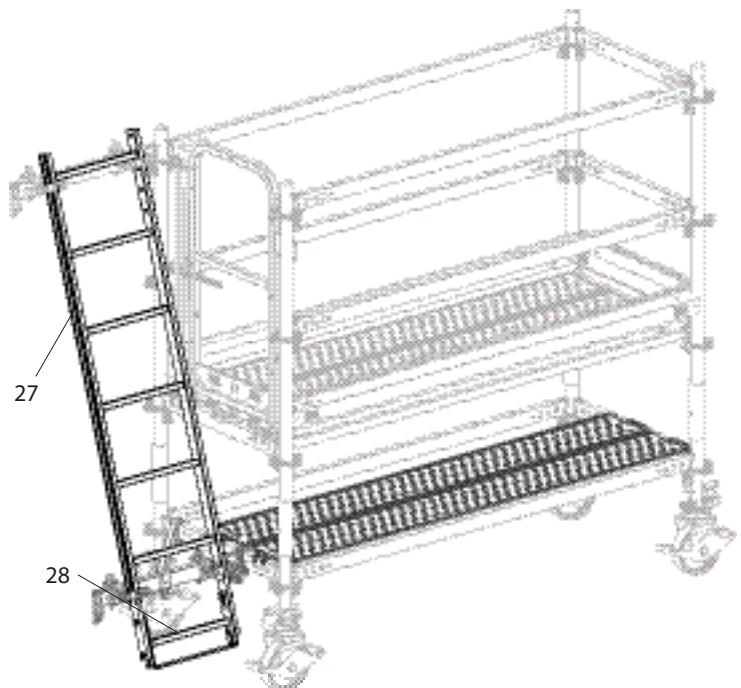

Fig. A3.08
5. Insert ladder 180/6 (27) with rails into the tube clamping parts.
7. Screw the ladder base (28) onto the ladder at the required height. (Fig. A3.08)